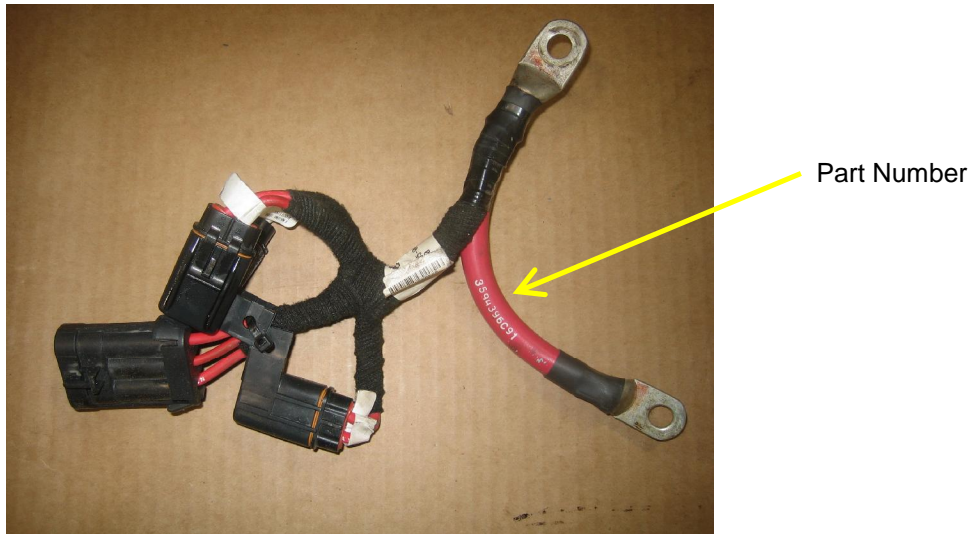

Figure 1.
- a. Inspect the part number printed on the vehicle's battery interconnect cable with integrated clean circuits. Figure 1 shows the cable.